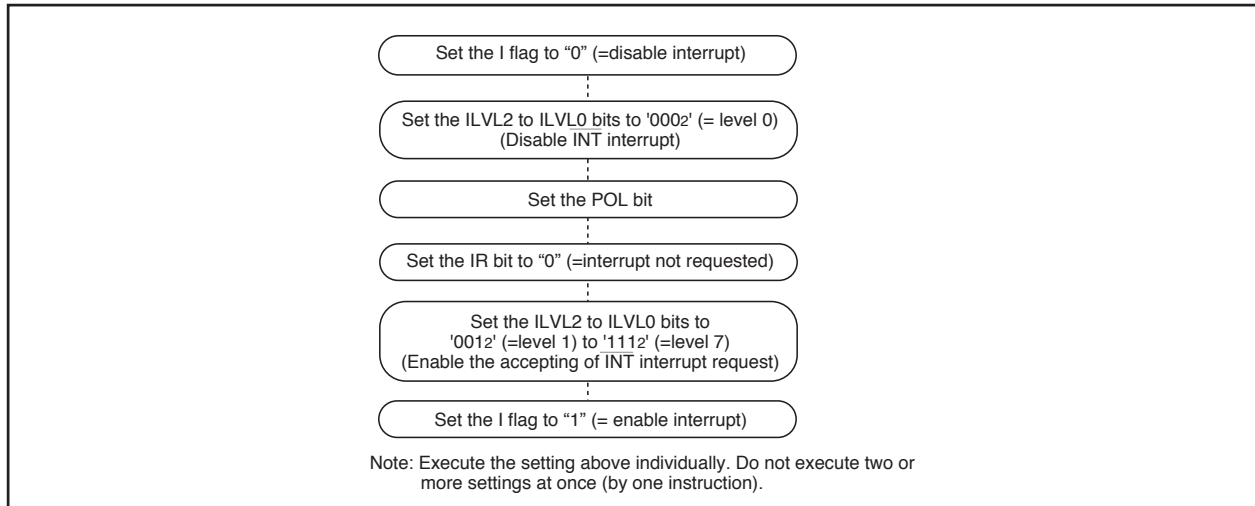

Figure 1.9.12. Switching Procedure for $\overline{\text{INT}}$ Interrupt Request
(1) Reading Address 00000₁₆
(2) SP Setting
- When the polarity of the $\overline{\text{INT}}_0$ to $\overline{\text{INT}}_3$ pins is changed, the IR bit is sometimes set to “1” (=interrupt requested). After changing the polarity, set the IR bit to “0” (=interrupt not requested). Figure 1.9.12 shows the procedure for changing the $\overline{\text{INT}}$ interrupt generate factor.
(4) Watchdog Timer Interrupt